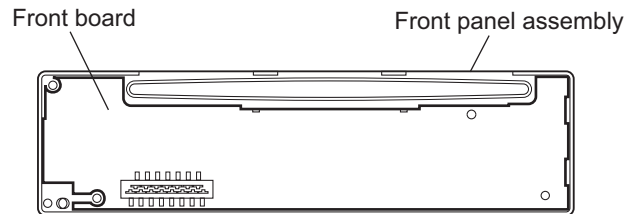

Fig.10
- (3) Take out the front board from the front panel assembly. (See Fig.10)
3.2.5 Removing the clamper assembly (See Figs.10 and 11)